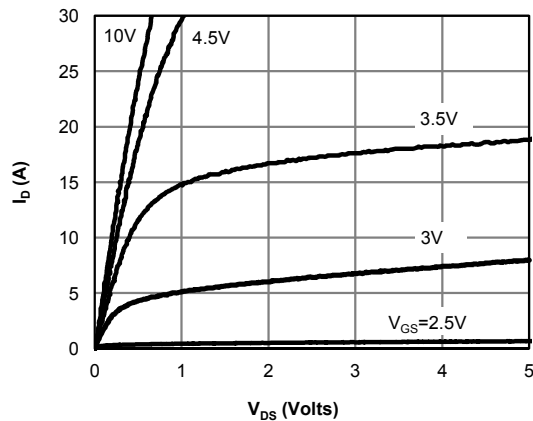

Fig 1: On-Region Characteristics (Note E)
- E. The static characteristics in Figures 1 to 6 are obtained using <300μs pulses, duty cycle 0.5% max.